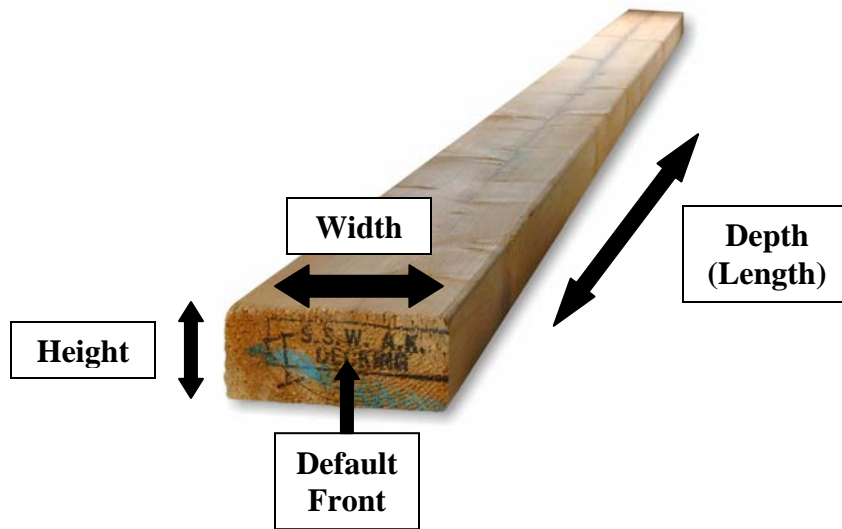

Figure 1 - Typical Consumer Trade Item
- Consumer Trade Items - Utilize the “Default Front” which is defined as the side with the largest surface area that carries the brand or product name intended to “sell” the product to the consumer. See Figure 1 on next page for a visual example.
- Non-Consumer Trade Items – Utilize the “Natural Base” which is defined as the bottom or natural underside. Finding the natural base can be aided by observing the printing on the trade item, such as branding, “Top”, or “This Side Up”. See Figure 1 on next page for a visual example.